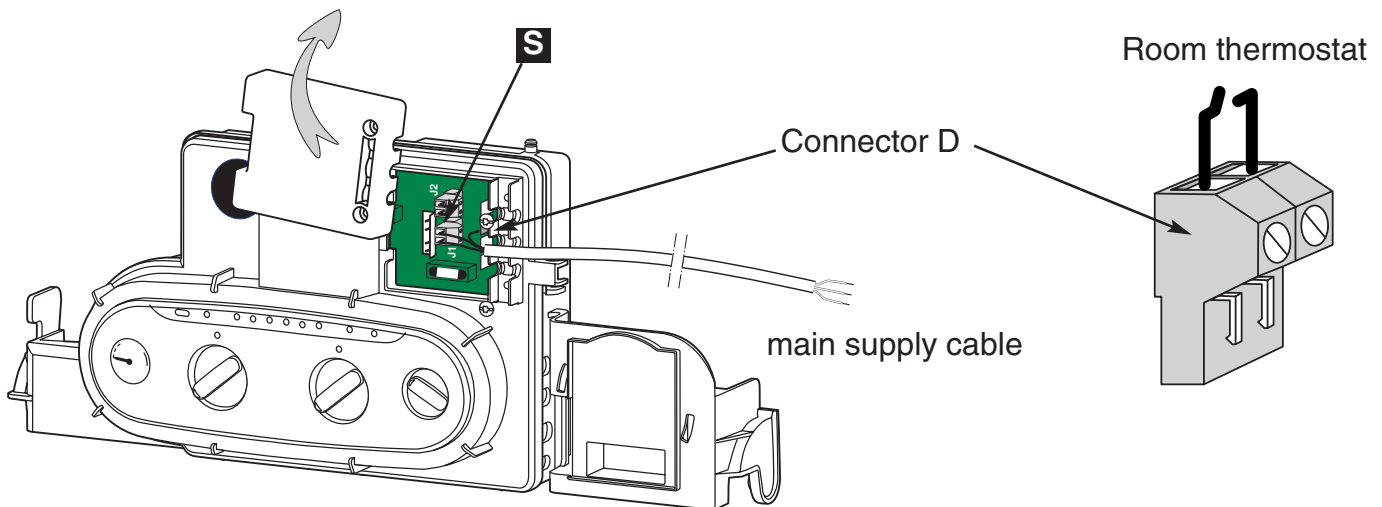

Fig. 11
- Function with room thermostat remove bridge S, room thermostat connected as shown on connector D (fig. 11).